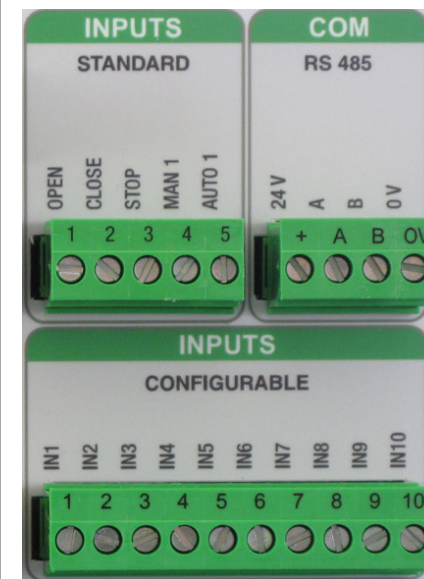

FIG 31
A. Inputs. There are 3 parameters that can be set. Refer to **FIG 31** (close up view of Input relays)